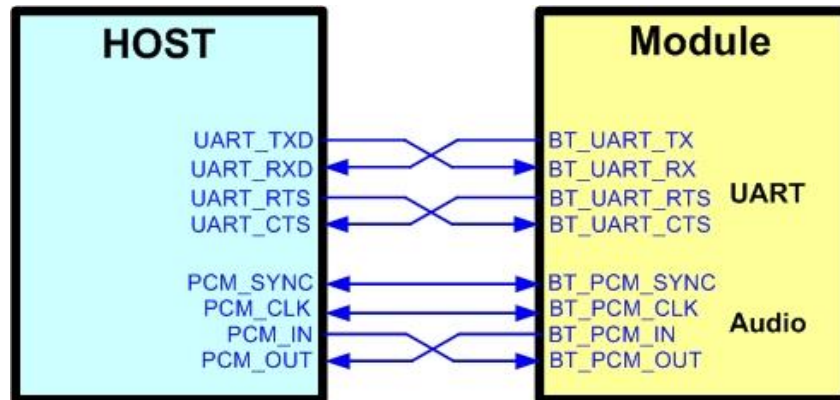

Figure5. Bluetooth verification connection interface to Host UART
- ❖ Refer to Figure5 UART pin definition connects the J16 interface of AP12276_M2 evaluation board to Host UART control interface.